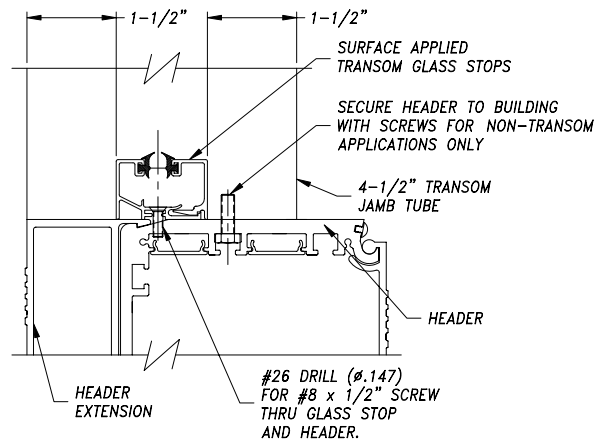

FIGURE 2: Transom Cross Section
- Use three 1/4-20 screws per jamb. Install additional screws up through the header into the building (Figure 2).
- Use three 1/4-20 screws per jamb. Center the transom glass stops in the jamb tubes (Figure 2). Drill #26 (.147 dia.) holes through the exterior glass stop and header and install the #8 x 1/2" screws provided.